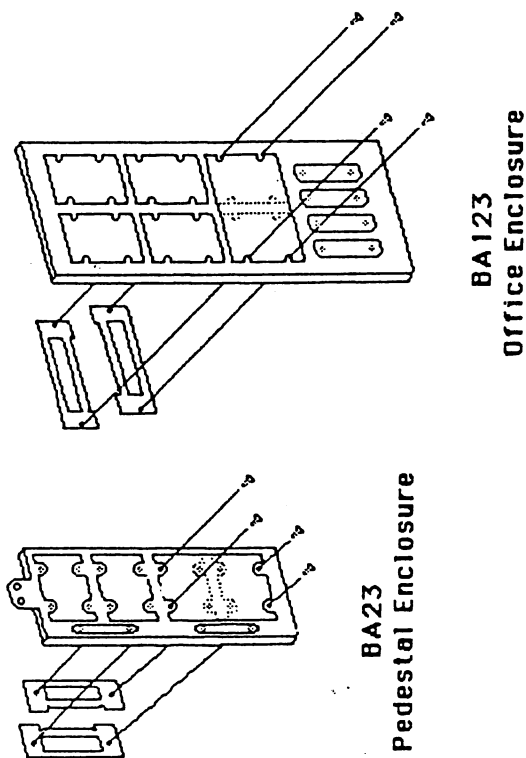

Figure 2-8: Installing the UNIBUS Cable Adapter Panel into a Q-Bus System
2. Use the optional UNIBUS cable adapter panels to route the UNIBUS cable out of the Q-bus cabinet. To install the panel first remove the bracket post between two cutouts in the I/O connection panel, then install one adapter panel into the double-size cutout as shown in Figure 2-8. Route the UNIBUS cable through the cutout and then install the second adapter panel. (Note: two "A" size cutouts are provided for other I/O devices.)